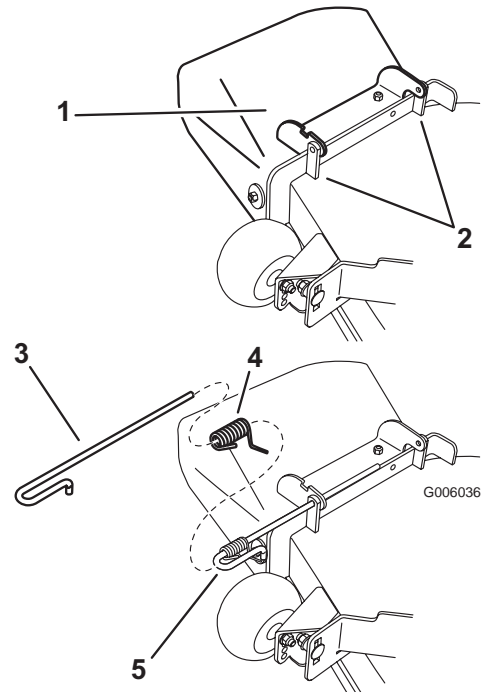

Figure 13
1. Disengage the spring from the notch in the deflector bracket and slide the rod out of the welded deck brackets, spring, and discharge deflector (Figure 13).
2. Position the new discharge deflector assembly with the bracket ends between the welded brackets on the deck as shown in Figure 13.
3. Install the spring onto the straight end of the rod. Position the spring on the rod as shown in Figure 13 so the shorter spring end is coming from under the rod before the bend and going over the rod as it returns from the bend.